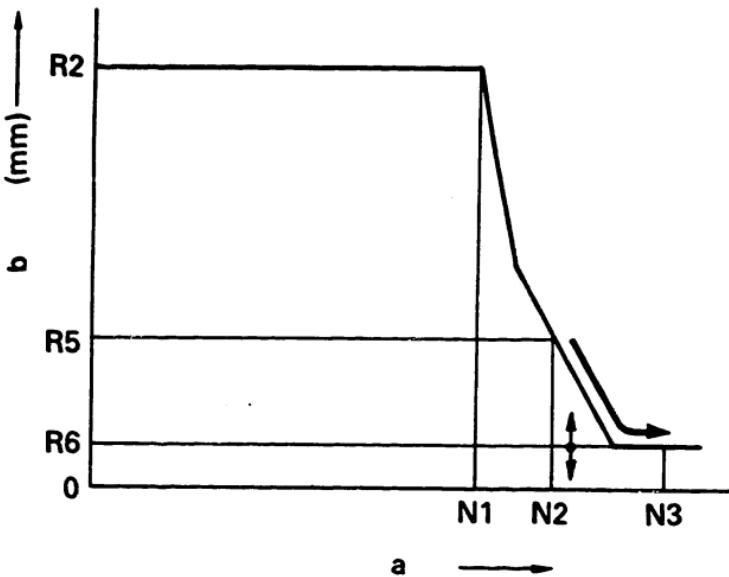

Fig. 73
4. Further increase pump speed and check that the control rack is positioned at  $R_6$  when the pump speed is  $N_3$ . (Fig. 73)